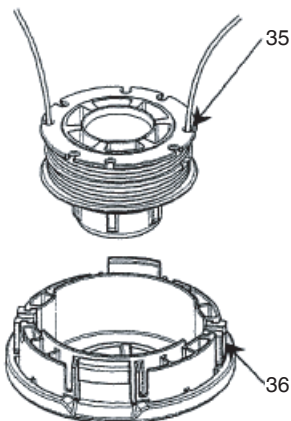

Fig. 32
- (5) Insert both loose ends of the line through the cord guide (36) when placing the reel in the case. (Fig. 32)